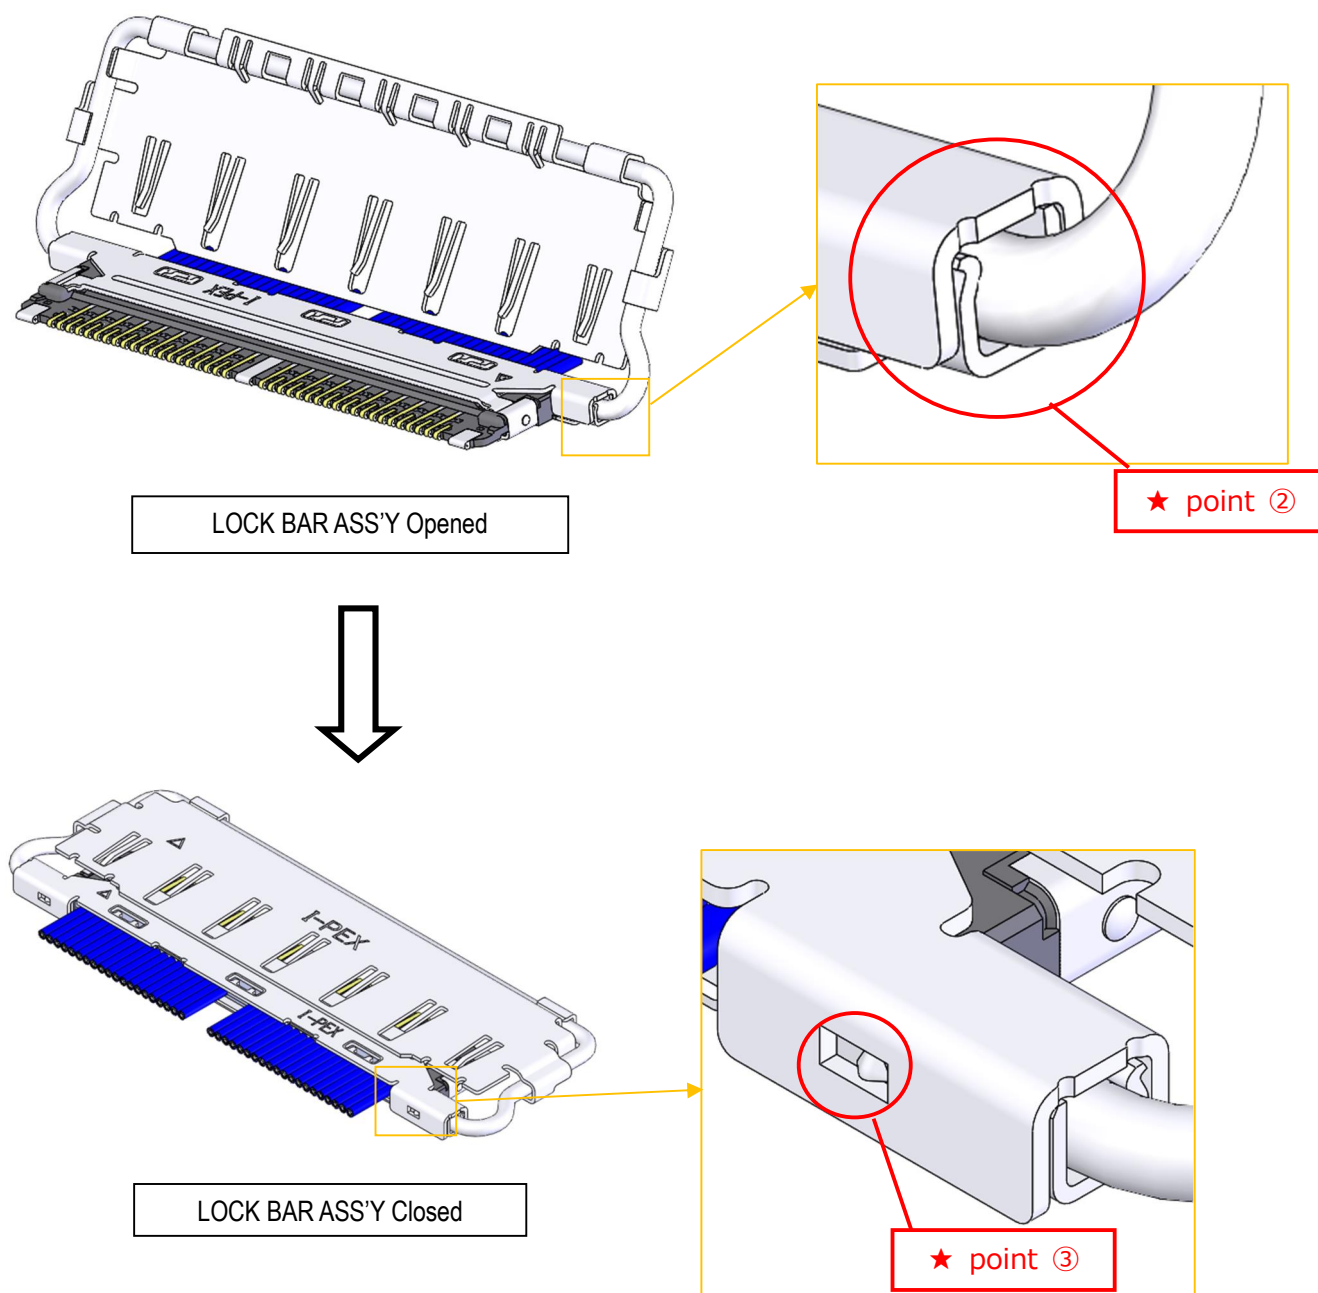

Fig.11 Assembly of SHELL-A
※Confirm whether (Fig.11 ★ points ②,③) is assembled properly and SHELL-A locks properly.